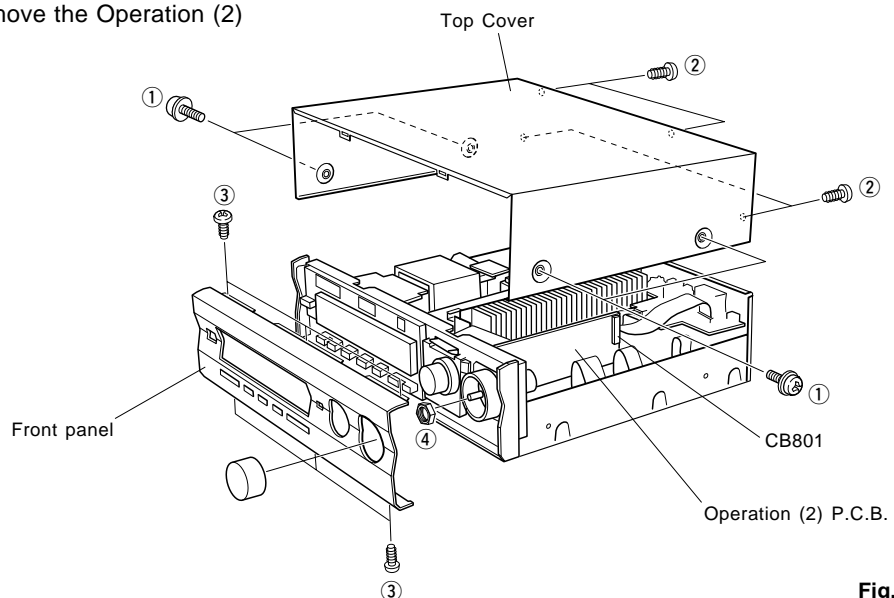

Fig. 1
- a. Remove 4 screws (①) and 4 screws (②) in Fig. 1.
- a. Remove 6 screws (③) in Fig. 1.
- b. Disconnect a flat connecting cable (CB801) in Fig. 1.
- c. Remove a nut (④) and then remove the Operation (2) P.C.B. in Fig. 1.